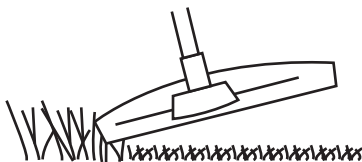

Fig. 21
1. Attach the trimmer head (18) to cut smaller types of weed, lawn grass or similar soft vegetation. Make sure that the guard (17) has been attached properly.
4. Hold the trimmer head (18) just above the ground at an angle of approximately 30° (Fig. 21).